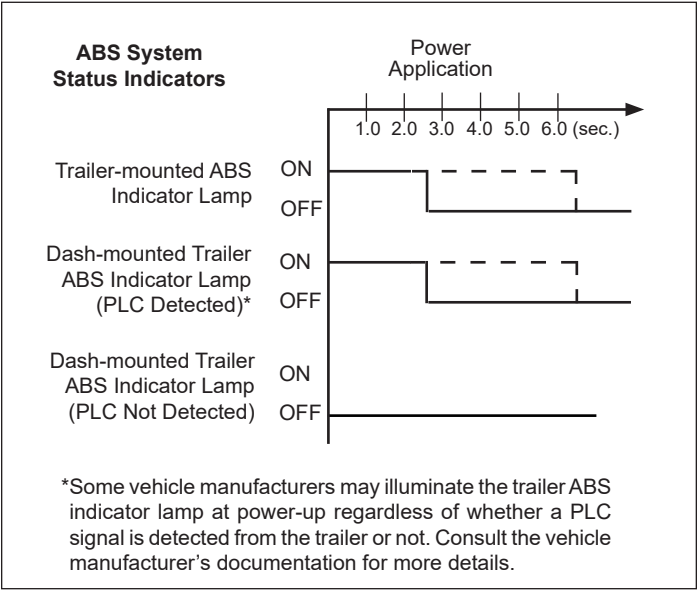

Figure 11 – Trailer ABS Lamp Power-Up Sequence
See Figure 11. At power-up, with no active DTC, the trailer ABS indicator lamp will illuminate for approximately two (2) to six (6) seconds as a bulb check and then turn off. If any active DTCs related to ABS are present, the trailer ABS indicator lamp will remain illuminated. If a PLC-ready towing vehicle and trailer are powered at the same time, the iTABS module will also trigger a bulb check on the dash-mounted trailer ABS indicator lamp.